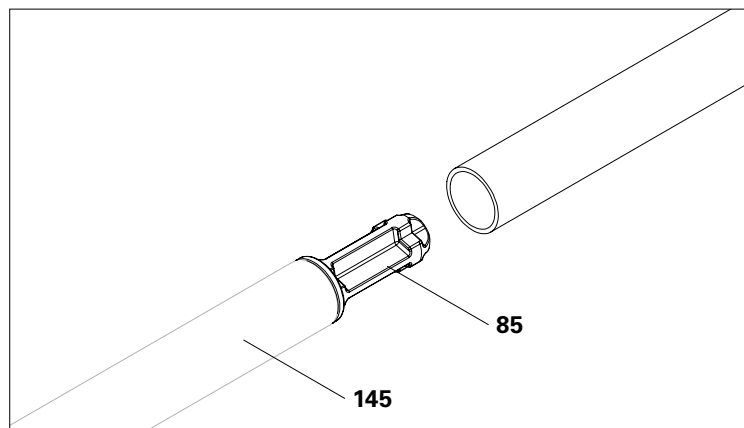

Fig. A10.07a
1. Insert tube connector (85) into scaffolding tube Ø 48.3 x 3.2 (145). (Fig. A10.07a)